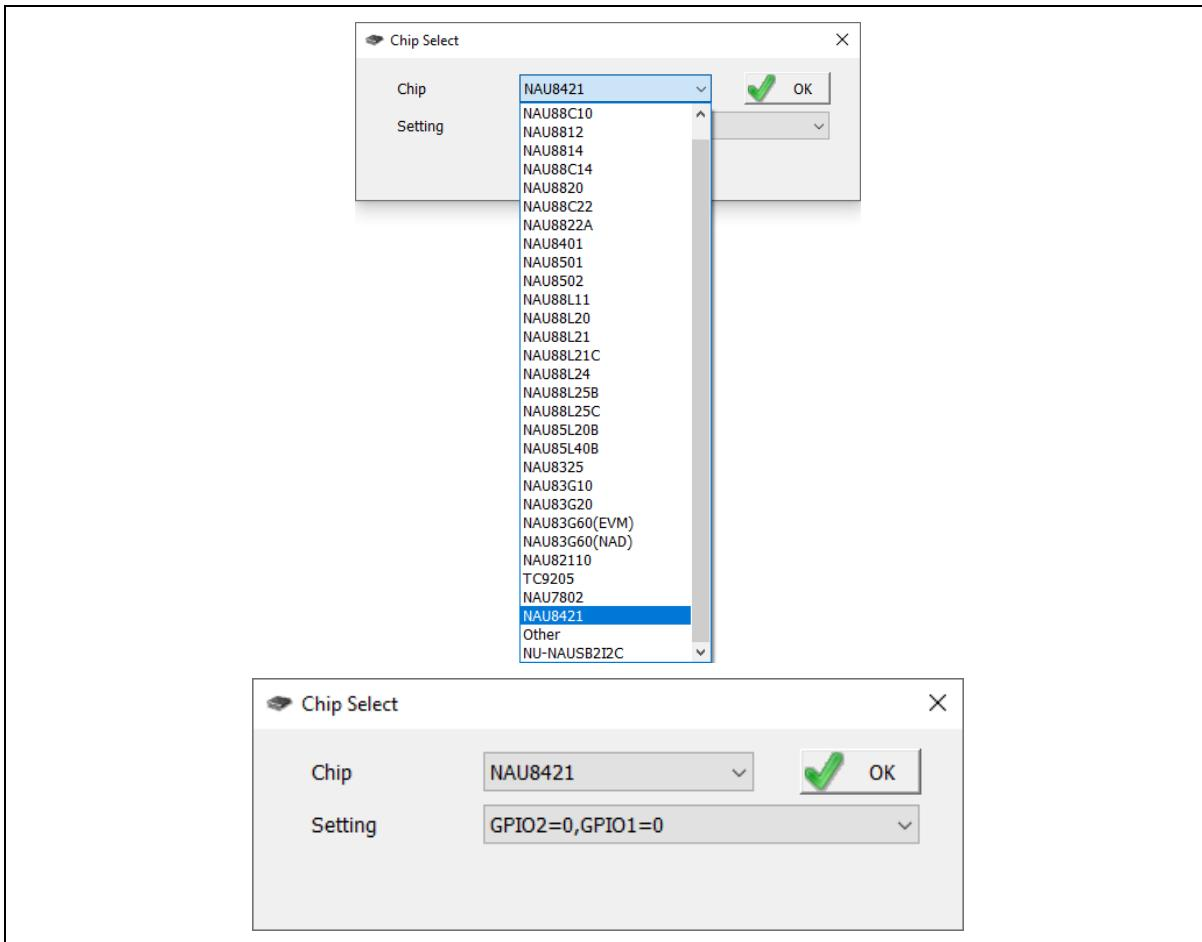

Figure 3-4 NuvotonAudioGUI Operating Step (1)
1. Open NuvotonAudioGUI, choose the corresponding IC Part Number, address setting of I²C(check by J5, J7), and click [OK], as shown in Figure 3-4.